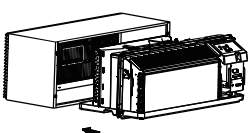

Fig. 8
- Lift unit level and slide unit into wall sleeve until firmly against front of wall sleeve and secure with 4 long screws through the unit flange holes. (See Fig. 8 and Fig. 9)